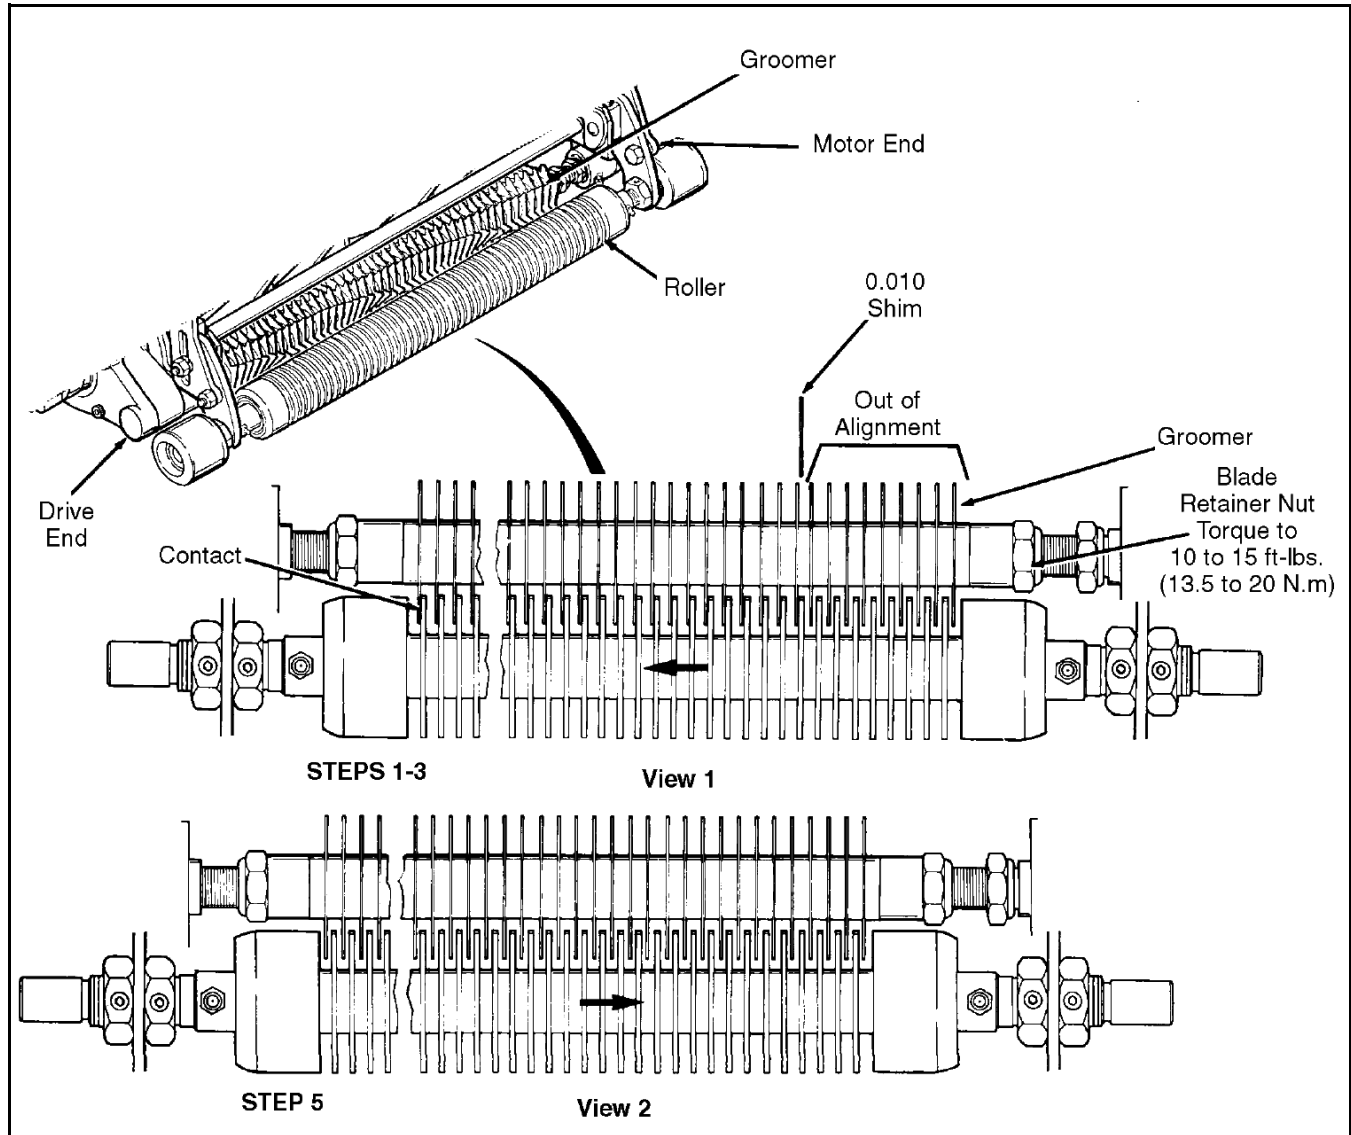

Figure 13C-7. Blade to Roller Alignment
1. Remove the nylon clamp and loosen the capscrew on the end of the groomer shaft (Figure 13C-8).
3. Slowly tighten the capscrew (C) on the end of the groomer shaft until the outer groomer bracket is pulled in against the inner bracket and the gap closes.
4. Using two wrenches, hold the cutter retaining nut (A) and slowly turn the bearing adjustment nut (B) until it just contacts the bearing spacer, slight resistance will be felt.
5. Torque the capscrew (C) on the end of the groomer shaft to 20ft-lbs (27 Nm).